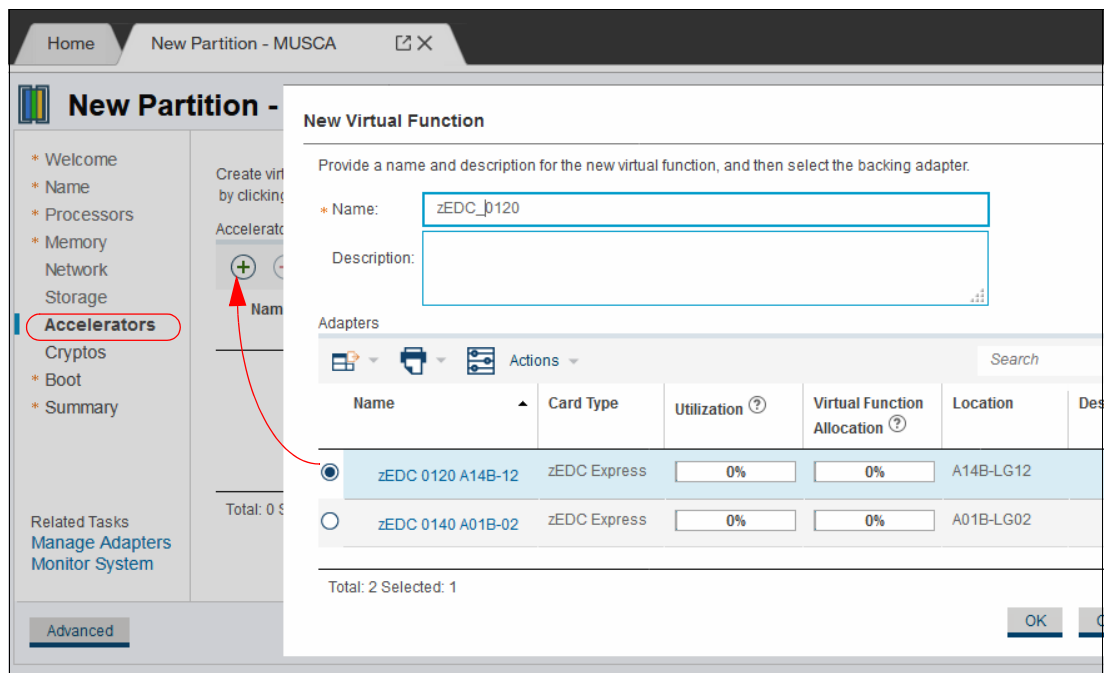

Figure 16-45 Selecting an accelerator adapter for the partition
- Configure the accelerator adapter (zEDC) to our partition, as shown in Figure 16-45. Select the wanted adapter click **OK**.